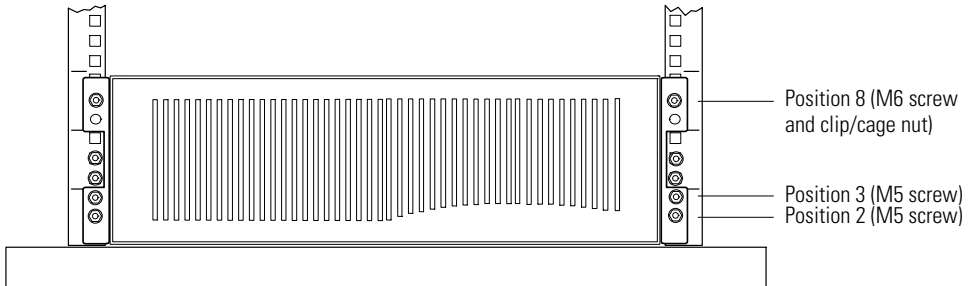

Figure 8. Securing the Front of the EBM
12. Install two cage or clip nuts as shown in Figure 8. If the rack holes are square, use two cage nuts. If the rack holes are round, use two clip nuts.
14. Secure the front of the cabinet to the rack as shown in Figure 8.